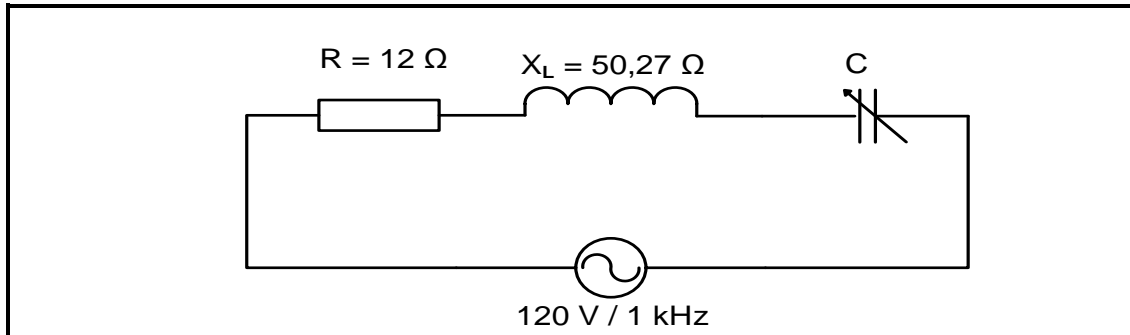

FIGURE 2.4: RLC SERIES CIRCUIT
- 2.4 FIGURE 2.4 below shows an RLC series circuit that consists of a 12Ω resistor, an inductor and a variable capacitor connected across a 120 V AC supply. The circuit resonates at 1 kHz . Answer the questions that follow.